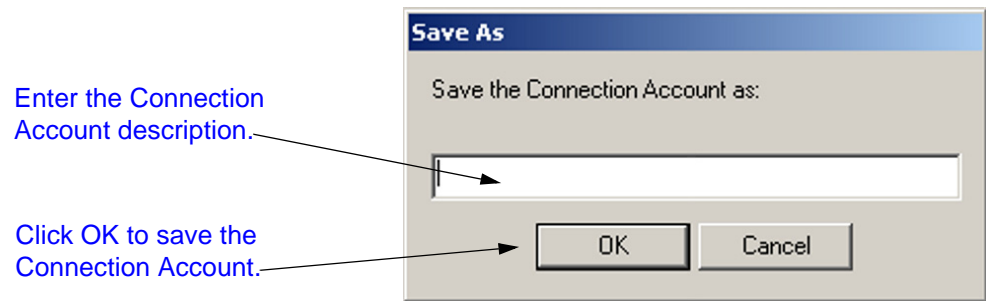

Figure E-2 Save As Connection Account Dialog
4. When the Save As dialog is displayed, enter a description of the connection (refer to Figure E-2 Save As Connection Account Dialog on page E-3.)